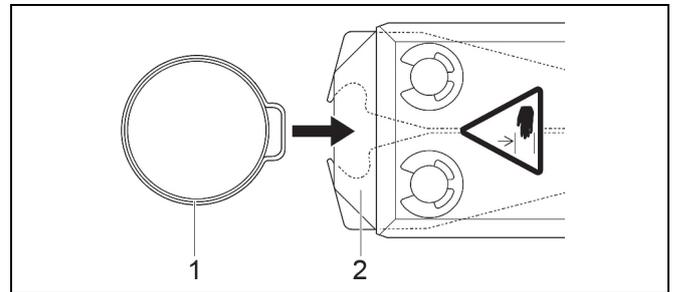

Fig. 14: Inserting a clamp
1. Insert the ear of an OETIKER clamp (Fig. 14/1) into the clamping range of the pincer head (Fig. 14/2).